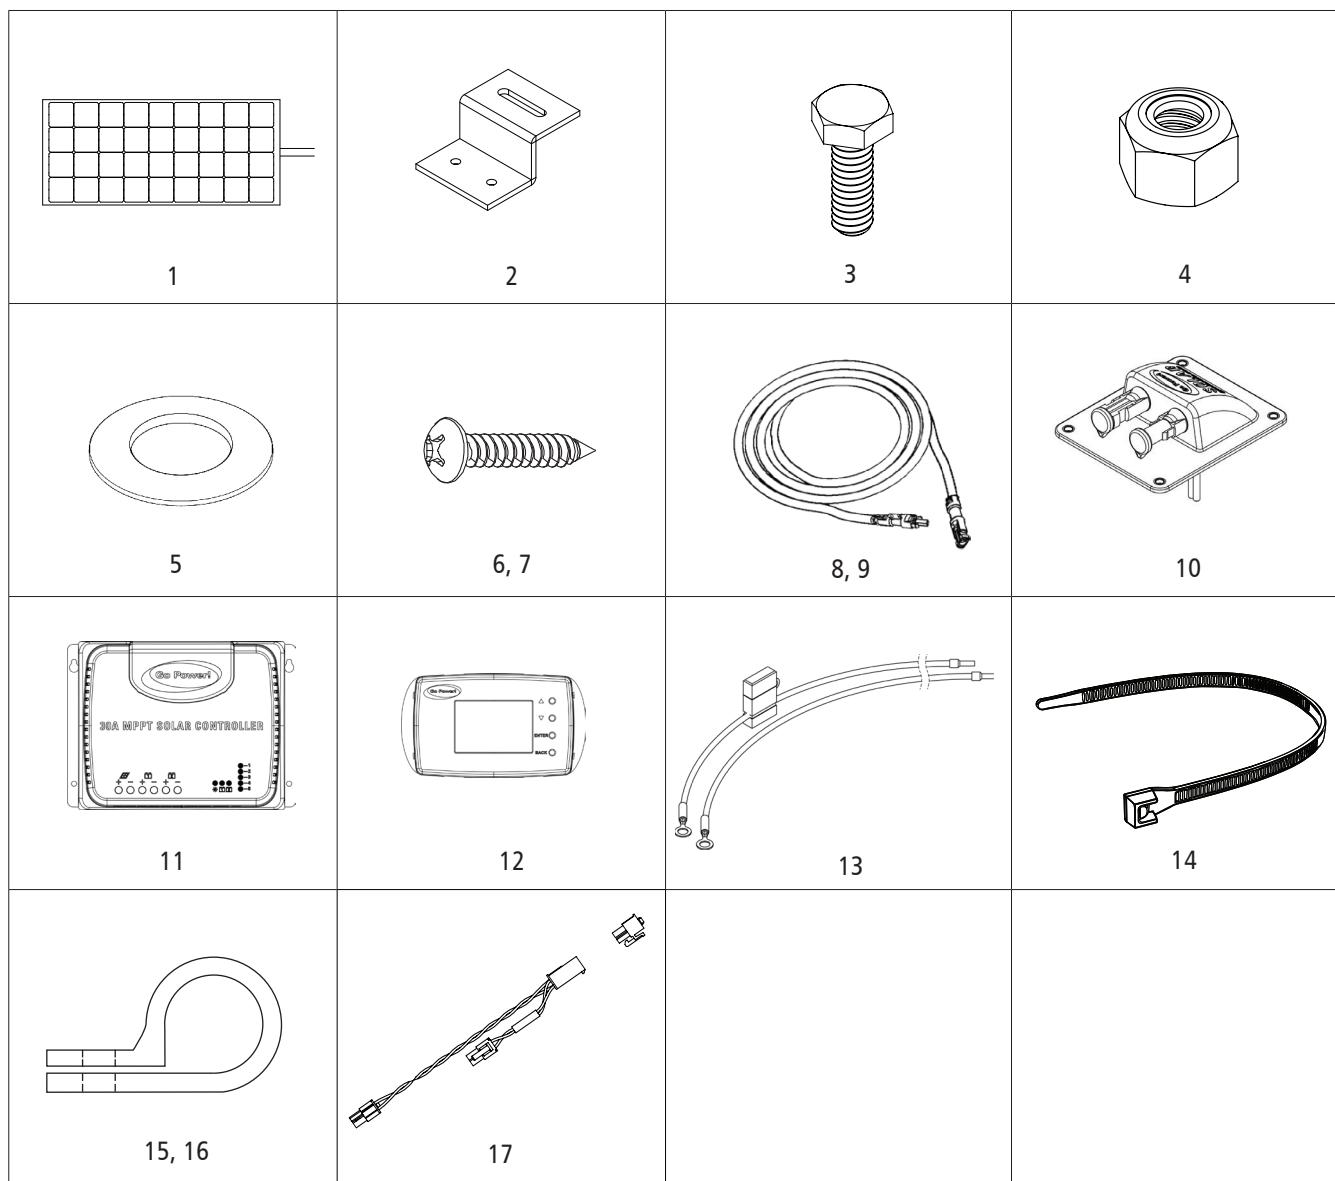

FIGURE 2-B: PART IMAGES
See Figure 2-B for parts images on next page.
2. Using the solar panel boxes as placeholders, plan the layout of the panels on your RV rooftop. Once you have positioned the boxes correctly, leave the boxes on the RV roof as place holders until the panels are installed. (See Figure 2-B for a sample layout).